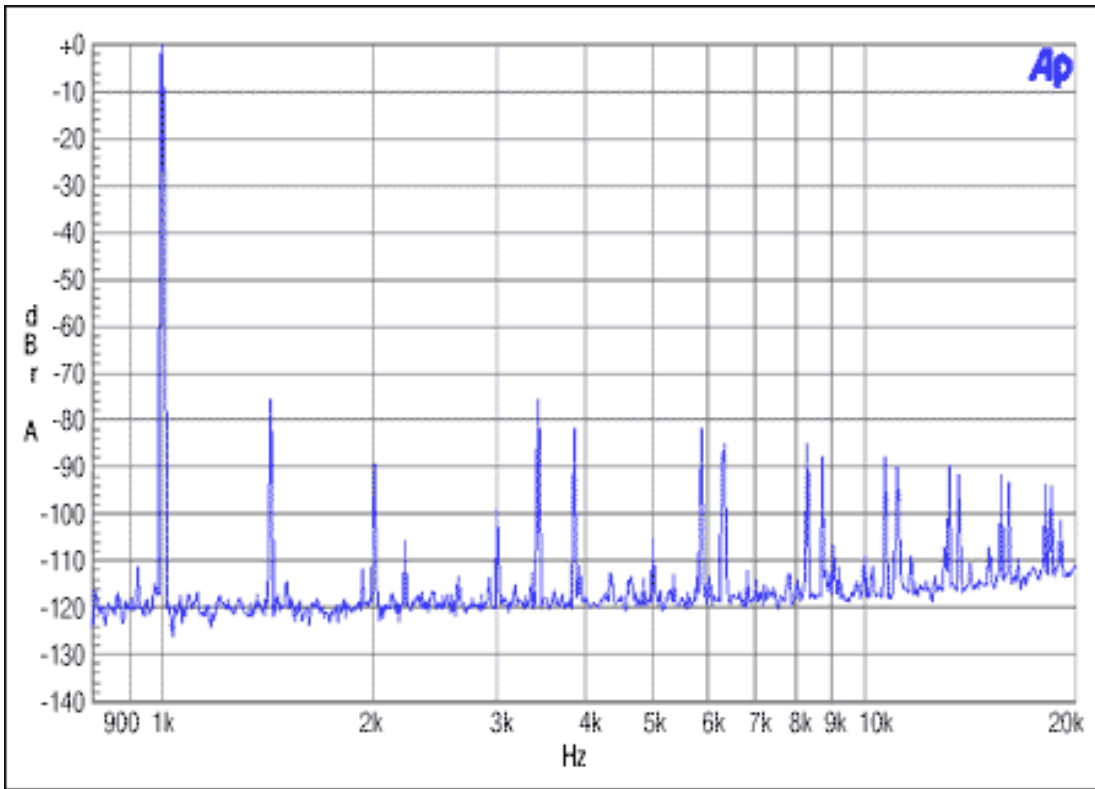

Figure 5. Master noninteger mode.  $MCLK = 12\text{MHz}$ ,  $F_S = 44.1\text{kHz}$ ,  $0\text{dBFS}$ .
**Figure 5** shows an FFT of the MAX9850 output operating from a 12MHz clock in master noninteger mode with input data sampled at 44.1kHz. The MAX9850 is able to reproduce the 1kHz sine wave, even though the sample rate and master clock are not integer related. The performance hit comes in the form of higher distortion. The distortion is also no longer all harmonic distortion, due to the data and clock manipulations required to make the DAC operate from a noninteger clock.